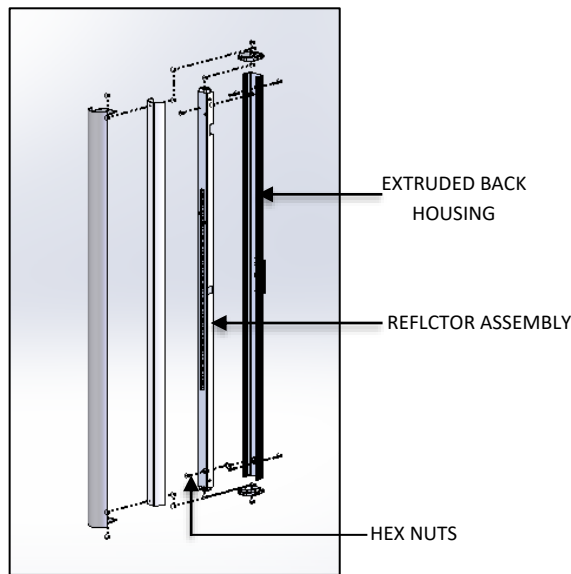

FIG.7- DISASSEMBLY OF REFLECTOR
4. Unscrew the two #8-32 HEX NUTS and remove the REFLECTOR ASSEMBLY from the EXTRUDED BACK HOUSING as shown in FIG.7.